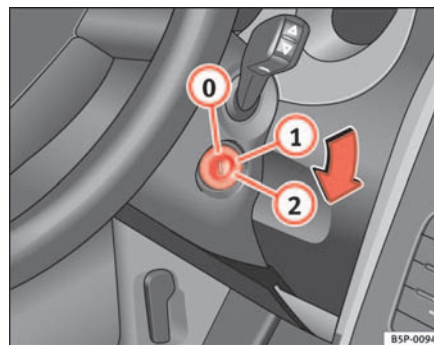

Fig. 99 Ignition key positions
In the position ⇒ fig. 99 the ignition and the engine are OFF and the steering may be locked.
- Turn the ignition key to position ⇒ page 130, fig. 99 ①. The indication lamp  will light for engine pre-heating.
- When the warning lamp goes out, turn the key to position ② to start the engine. Do not press the accelerator.
- Turn the ignition key to position ⇒ page 130, fig. 99 ①.